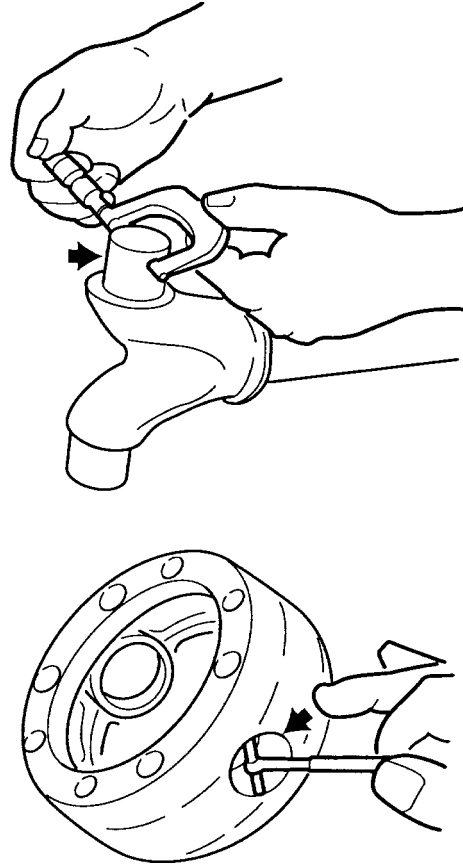

Figure 16 Check Axle Trunnion Wear
3. Check the clearance between axle shaft trunnions and cage ring holes. (See Figure 16). If the clearance is greater than .050", replace worn parts.